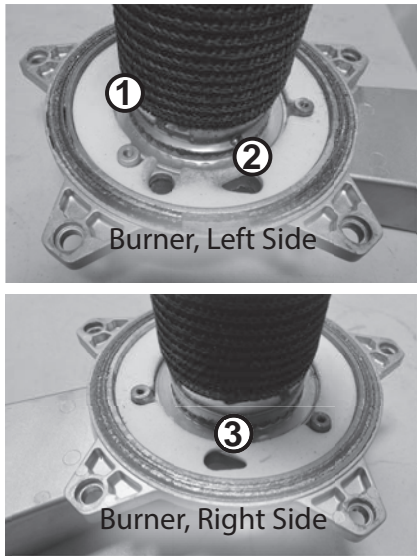

Figure 117 - Remove burner screws
20 Locate the three (3) screws securing the burner to the burner door as shown in Figure 117. Use a Phillips screwdriver to remove screws. Place screws aside in a safe place for reinstallation.